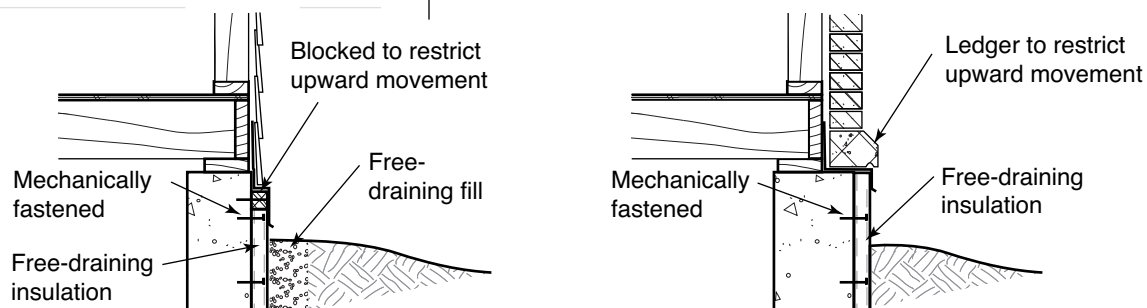

FIGURE 34
- ◆ Ensure that insulation materials are adequately fastened to the foundation and capped at the top of the insulation to restrict upward movement. Mechanically fastened insulation is preferable to mastic-applied approaches (see Figure 34).